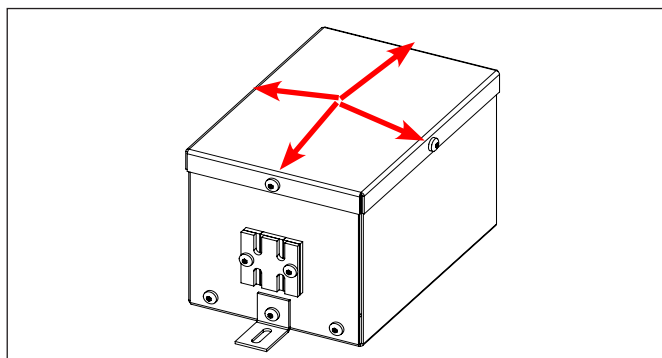

Figure 4: Burner Removal
2. Remove the transformer box from the unit, then remove four (4) T20 screws open the transformer box top cap. see figure 4.